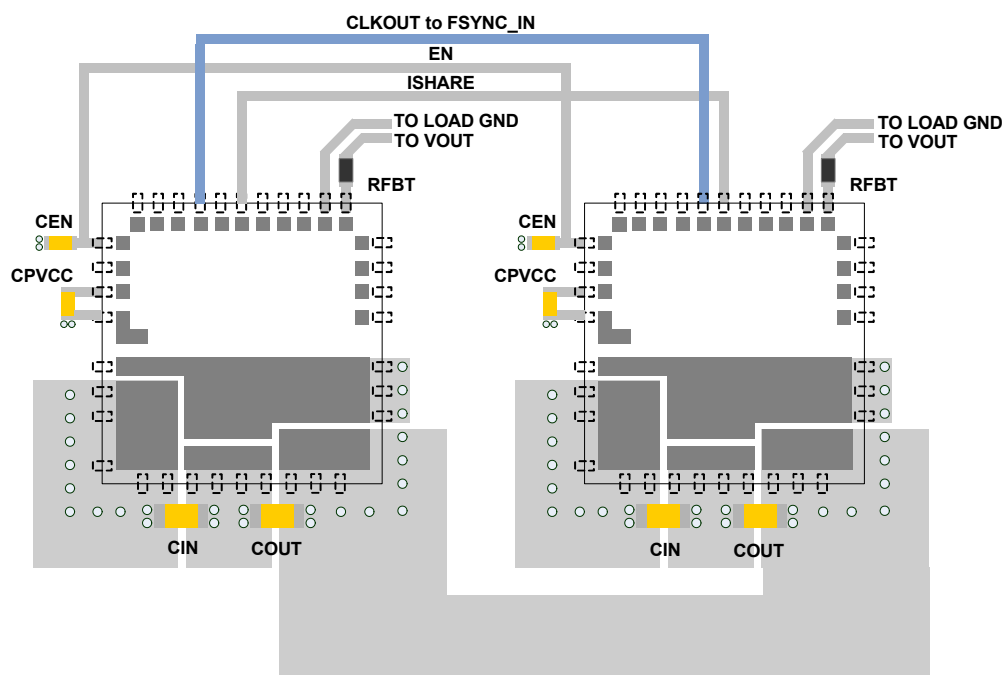

FIGURE 37. RECOMMENDED LAYOUT FOR DUAL PHASE SETUP
- Place modules such that Pins 1 to 11 point away from power pads (PD1-4) so that signal busses (EN, ISHARE, CLKOUT-to-FSYNCIN) can be routed without going under the module. Run them along the perimeter as in Figure 37.
- Keep remote sensing traces separate, and connect only at the regulation point. Four separate traces for VSEN_REM- and RFBT (which stands for remote feedback) as the example shows in Figure 37.